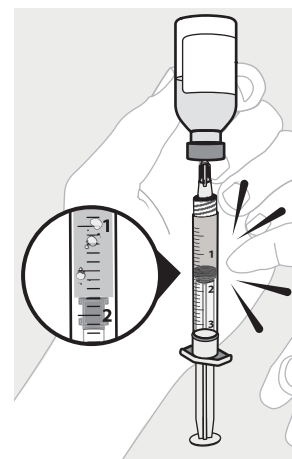

Figure 51
- b. Remove any remaining air from the syringe by flicking it with your finger and pushing on the syringe plunger rod to get rid of air bubbles (see Figure 51). Pull back on the syringe plunger rod again if needed to fill the syringe to about 1.8 mL.